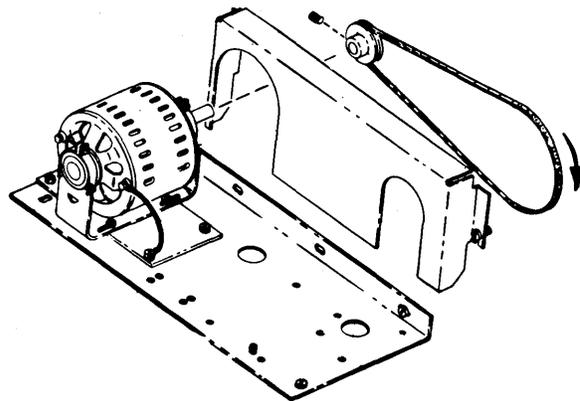

Figure 3-8. CRCB Drive Motor
2. CB cam index rotation is clockwise as seen in Figure 3-8.